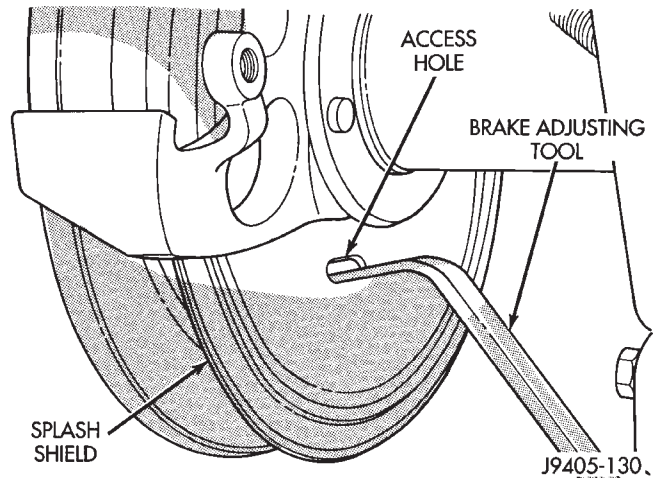

Fig. 47 Retracting Parking Brake Shoes
- (1) Raise vehicle.
- (2) Remove rear wheel and tire assembly.
- (3) Remove caliper. **Do not allow brake hose to support caliper weight. Support caliper with wire attached to suspension component.**
- (4) Remove rubber access plug from back of rear disc brake splash shield.
- (5) Retract parking brake shoes with brake adjuster tool (Fig. 47). Position tool at top of star wheel and rotate wheel downward in clockwise direction (while facing front of vehicle).